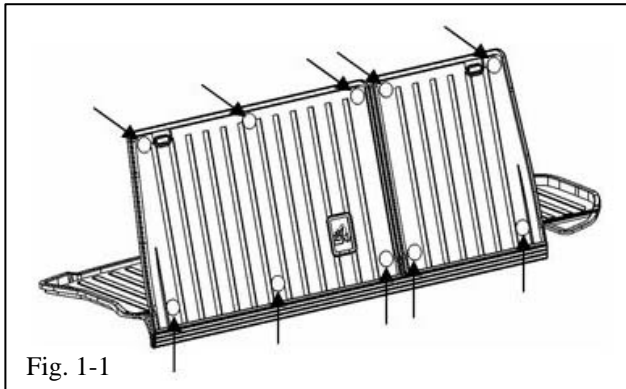

Fig. 1-1
- (a) Open package and check part for damage and kit contents, including 10 adapter pads attached to velcro on the seatback area of liner (Fig 1-1).